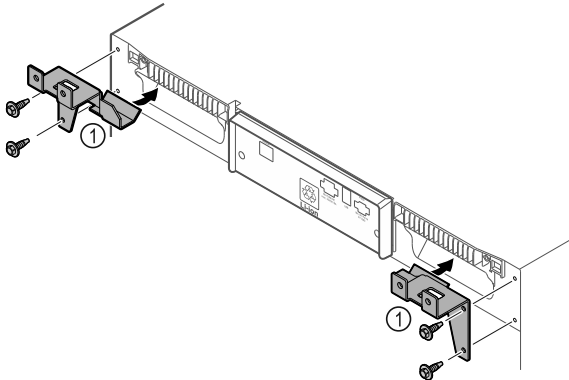

Fig. 8
- ▶ Mount retaining parts Fig. 8 (1) on the appliance using the screws supplied.